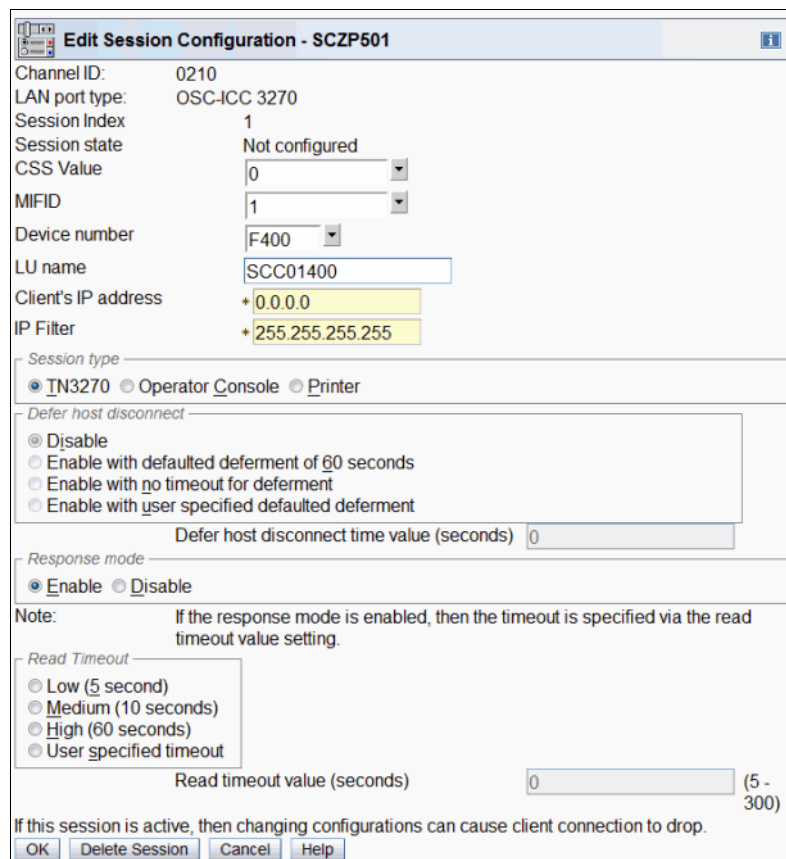

Figure 14-93 OSA Advanced Facilities: Edit Session Configuration
- The Edit Session Configuration panel opens (Figure 14-93). On this panel, define the value for session here. We use the value shown in the figure. Click **OK** to save.